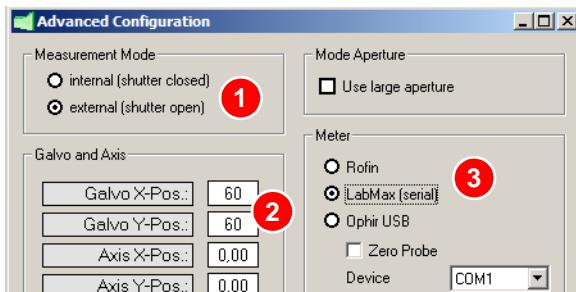

Figure 7.1 Advanced Configuration
- Open shutter (1) (Figure 7.1).
- Position the galvo mirror in the middle of the field (2).
- Select the measuring device (3).